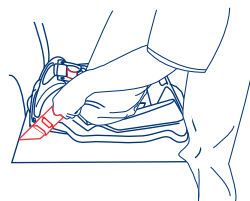

Fig. 49-1
- 15.3.5) Proper installation of the Base requires that the LATCH webbing be very tight. To tighten the webbing, push down hard with your knee or hand on the Base while pulling upward on each webbing end. The webbing will automatically lock in place. **Check that there is no slack in the webbing on both sides of the base and that the base is tightly installed.** Please see figure 49-1 and 49-2.